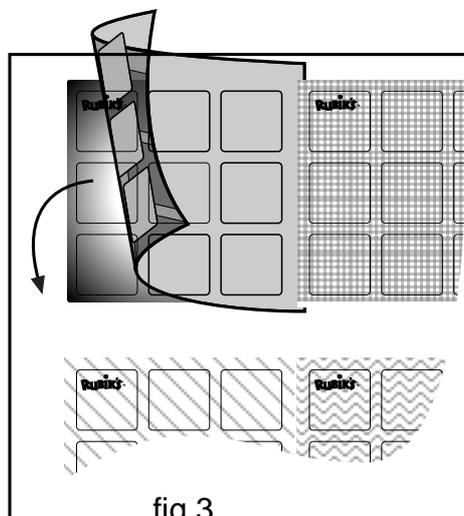

fig 3
4. With the clear laminates still attached to the carrier film carefully align and stick them to the printed sheet. Only apply one set at a time. Rub the laminates down to stick them to the labels avoiding air bubbles. fig 3